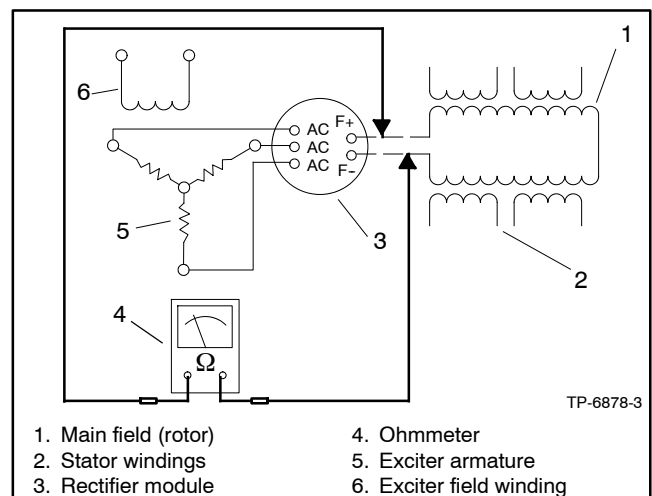

Figure 3-8 Ohmmeter Connections on Main Field
2. Check the main field (rotor) resistance by connecting an ohmmeter across the main field (rotor) F+ and F- leads. See Figure 3-8. See Section 1, Specifications, for the resistance value.